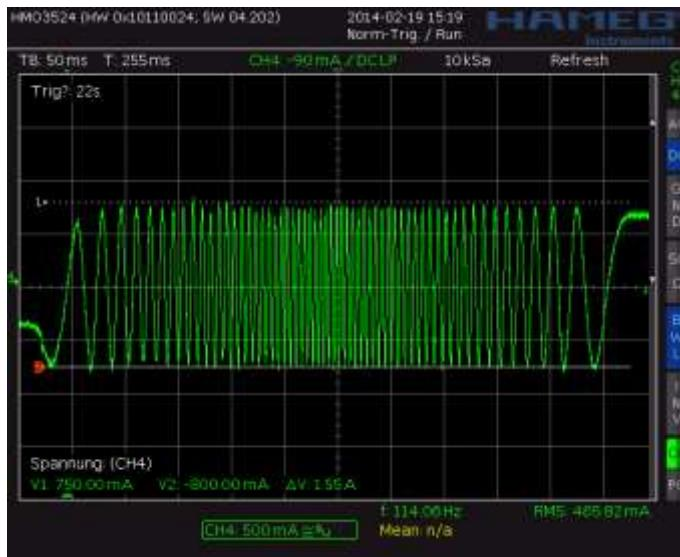
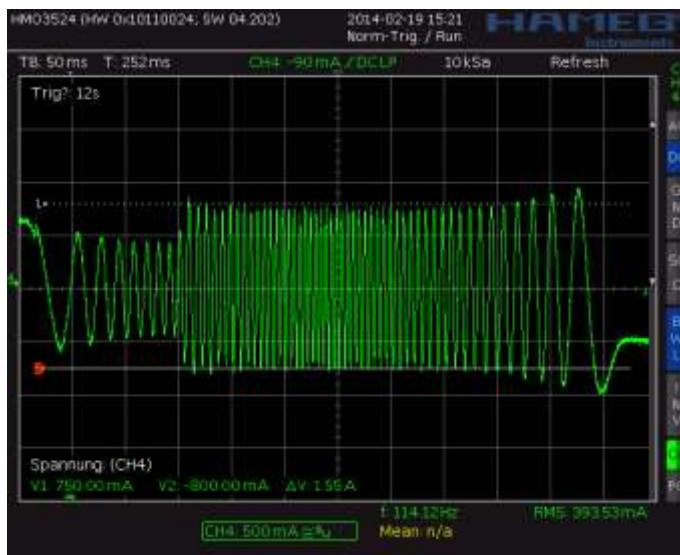
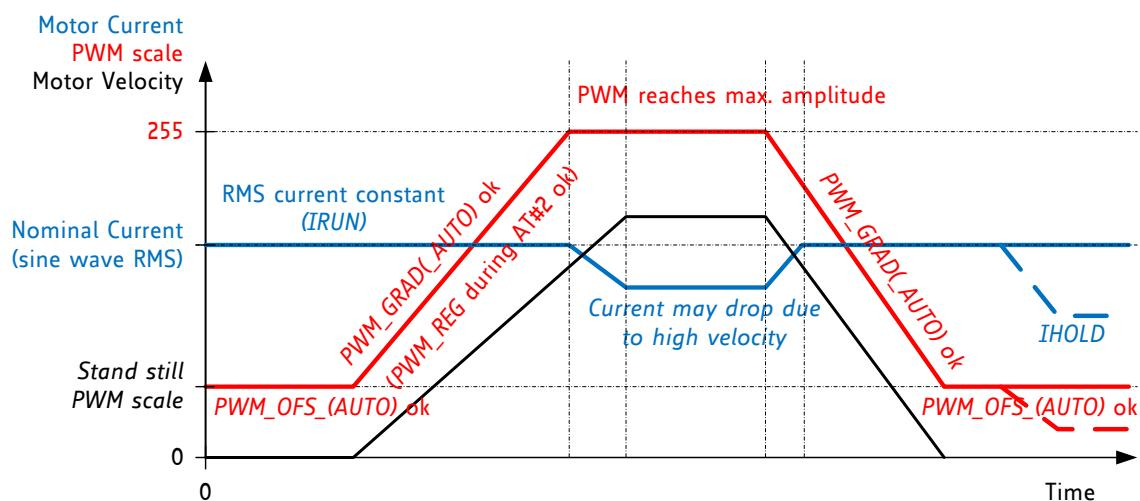

Figure 6.3 Scope shot: good setting for PWM_REG
Figure 6.4 Scope shot: too small setting for PWM_REG during AT#2
Figure 6.5 Successfully determined PWM_GRAD(AUTO) and PWM_OFS(AUTO)
In StealthChop voltage PWM mode, the autoscaling function (`pwm_autoscale = 1`, `pwm_autograd = 1`) regulates the motor current to the desired current setting. Automatic scaling is used as part of the automatic tuning process (AT), and for subsequent tracking of changes within the motor parameters. The driver measures the motor current during the chopper on time and uses a proportional regulator to regulate `PWM_SCALE_AUTO` in order match the motor current to the target current. `PWM_REG` is the proportionality coefficient for this regulator. Basically, the proportionality coefficient should be as small as possible in order to get a stable and soft regulation behavior, but it must be large enough to allow the driver to quickly react to changes caused by variation of the motor target current (e.g. change of VREF). During initial tuning step AT#2, `PWM_REG` also compensates for the change of motor velocity. Therefore, a high acceleration during AT#2 will require a higher setting of `PWM_REG`. With careful selection of homing velocity and acceleration, a minimum setting of the regulation gradient often is sufficient (`PWM_REG=1`). `PWM_REG` setting should be optimized for the fastest required acceleration and deceleration ramp (compare Figure 6.3 and Figure 6.4). The quality of the setting `PWM_REG` in phase AT#2 and the finished automatic tuning procedure (or non-automatic settings for `PWM_OFS` and `PWM_GRAD`) can be examined when monitoring motor current during an acceleration phase Figure 6.5.